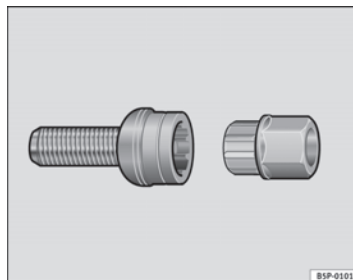

Fig. 181 Anti-theft wheel bolt
- Insert the adaptor onto the wheel bolt and push it on as far as it will go ⇒ page 258, fig. 181.